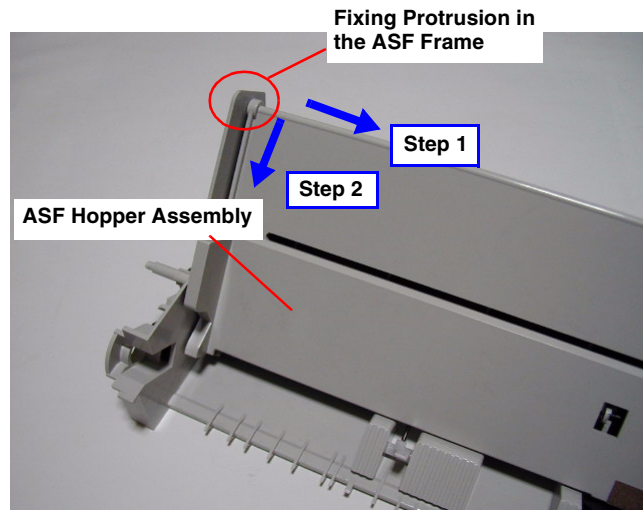

Figure 4-35. Releasing the Hopper Assembly
- 5) Release the Hopper Assembly fixing hooks from the protrusion at the top left corner of the ASF Frame by following the step in Figure 4-35.